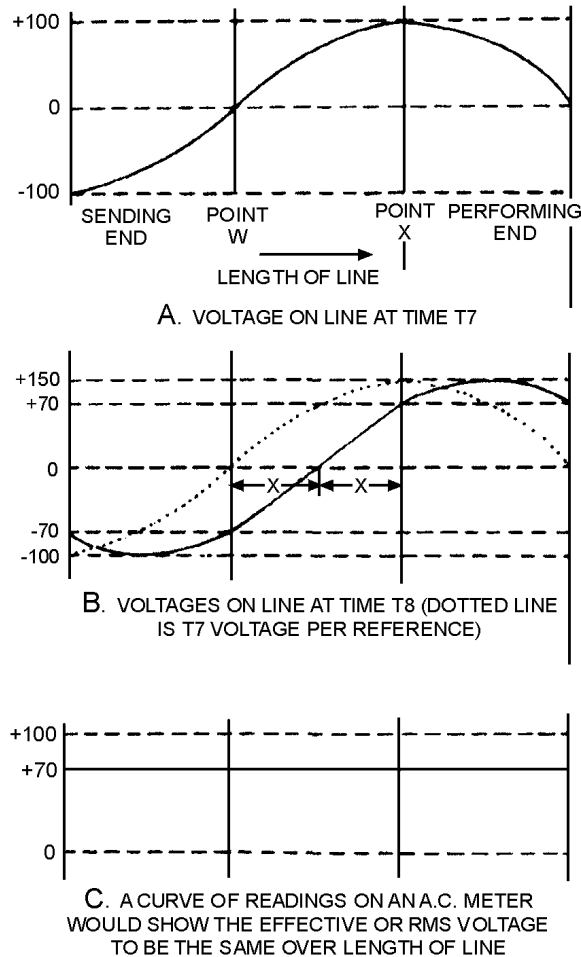

Figure 3-22.—Instantaneous voltages along a transmission line.
If these voltages are plotted along the length of the line, the resulting curve is like the one shown in figure 3-22, view A. Note that such a curve of instantaneous voltages resembles a sine wave. The changes in voltage that occur between T7 and T8 are as follows:
A plot of these new voltages produces the solid curve shown in figure 3-22, view B. For reference, the curve from T7 is drawn as a dotted line. The solid curve has exactly the same shape as the dotted curve, but has moved to the right by the distance X. Another plot at T9 would show a new curve similar to the one at T8, but moved to the right by the distance Y.
4. All parts of a sine wave pass every point along the line. A plot of the readings of an ac meter (which reads the effective value of the voltage over a given time) taken at different points along the line shows that the voltage is constant at all points. This is shown in view C of figure 3-22.